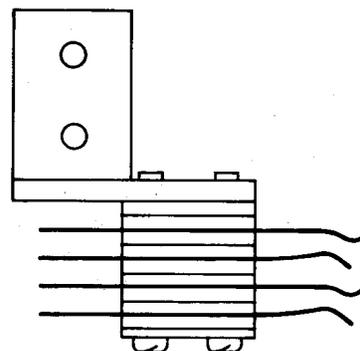

Fig. 2—502A Jack
2.02 502A: This multicontact jack (Fig. 2) consists of a metal bracket on which are mounted two pairs of contact springs insulated from each other. The terminals are designed for mechanically wrapped connections. The 502A jack is used with a 240A plug in the SD-32021-01 switchman's talking line circuit in step-by-step systems.